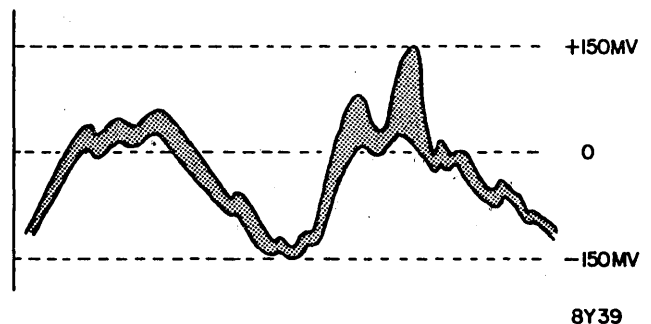

Figure 3-11. Fine Position Gain Waveform
The signal measured in step 4 is the 60 Hz component of the displayed waveform. The waveform in Figure 3-11 is typical and may vary from drive to drive.
observed waveform should not exceed the requirements of Figure 3-11. If value exceeds requirements, go to step 8. If value is within requirements, go to step 6.
7. Observe waveform on scope. The average peak-to-peak value should not exceed requirements of Figure 3-11. If value exceeds requirements, go to step 11. If within requirements, go to step 8.
11. Check waveform amplitude requirements of Figure 3-11. If observed waveform exceeds limits, the problem is too much pack runout. Replace pack with a known good pack and repeat this procedure. If waveform is now within limits, test is complete.